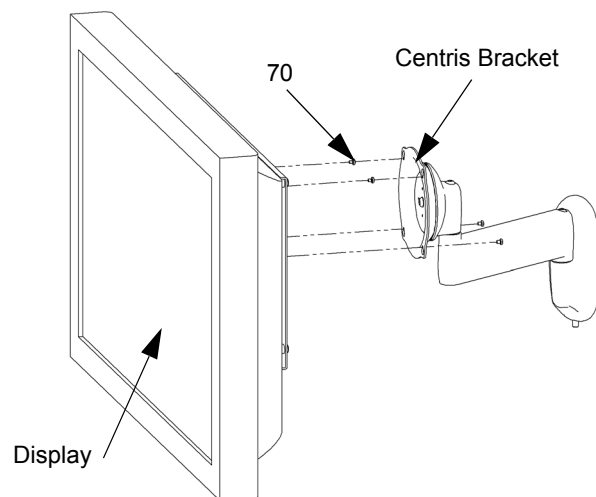

Figure 7: Attach Display to Centris Bracket
1. Start two M4 x 8mm Phillips pan head screws (70) into the top two mounting holes of the previously attached interface bracket. (see figure 7)
3. Install the remaining two M4 x 8mm Phillips pan head screws (70) into the bottom two mounting holes of the display.
4. Secure the display to the mount (Centris bracket) by tightening all four M4 x 8mm Phillips pan head screws (70). (see figure 7)